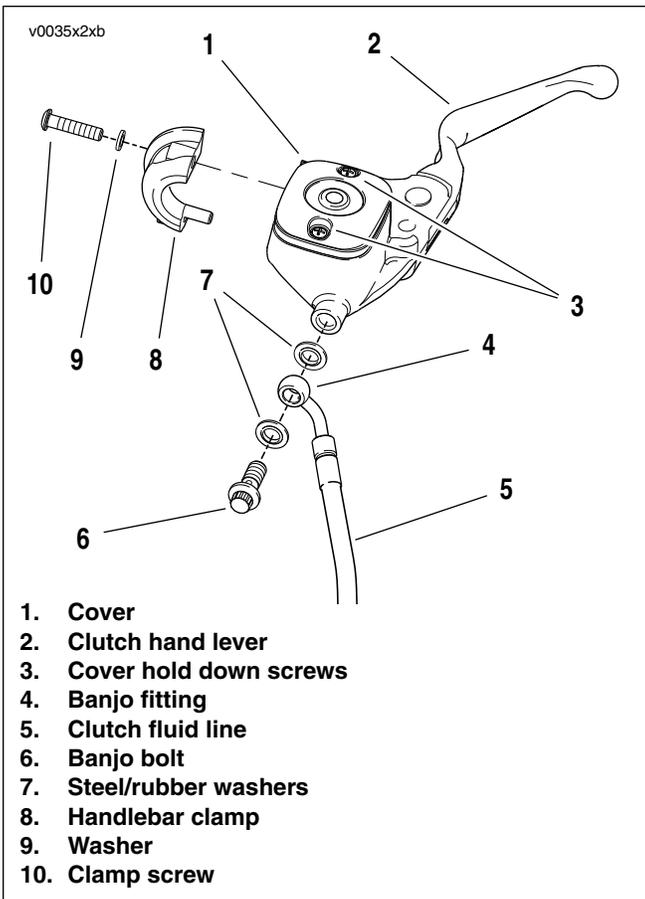

Figure 2-31. Clutch Master Cylinder/Reservoir
3. See Figure 2-31. Loosen, but do not remove, screws with flat washers that detach handlebar clamp from clutch master cylinder/reservoir.
- See Figure 2-31. Attach master cylinder/reservoir to handlebar with handlebar clamp. Orient lever to rider position and tighten two clamp screws to 60-80 **in-lbs** (6.8-9.0 Nm).